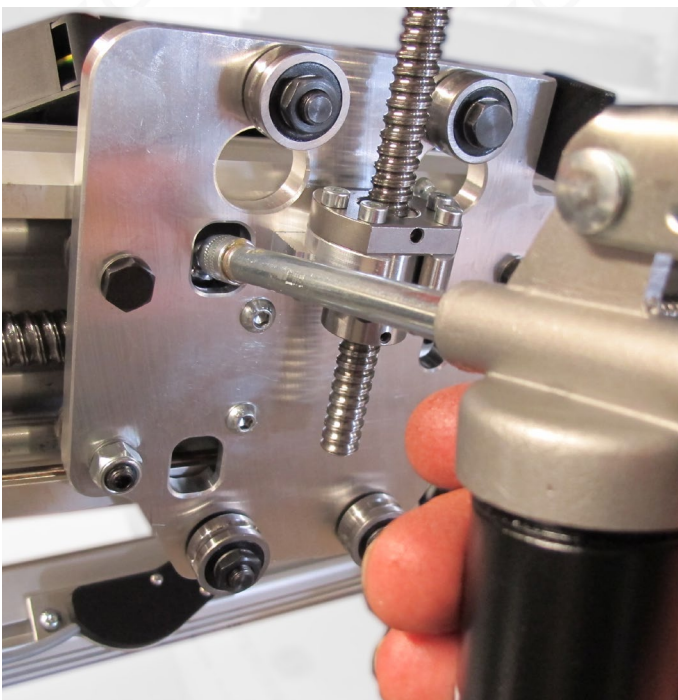

Fig. 44: Lubricating the X axis
- Lubricate the spindle nut of the X axis with a grease gun, as shown in Fig. 44.